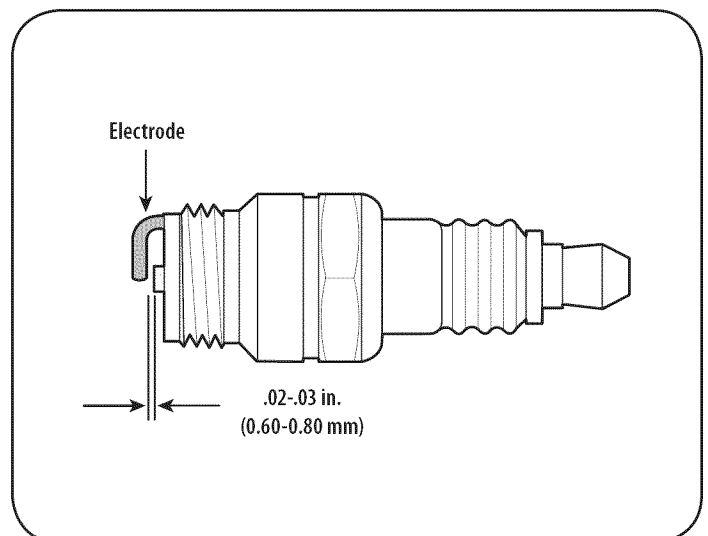

Figure 21
3. Measure the plug gap with a feeler gauge. Correct as necessary by bending side electrode. See Figure 21. The gap should be set to .02-.03 inches (0.60-0.80 mm).